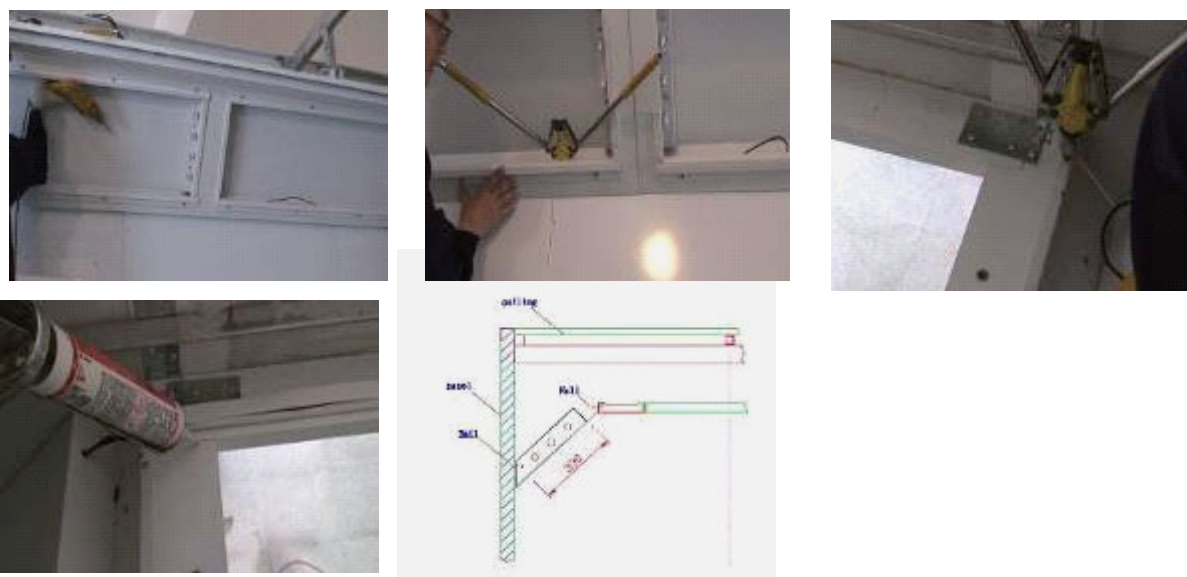

Fig. 2.31
3. Installate the light box and do some sealing with the transparent pastern shown in Fig.2.31